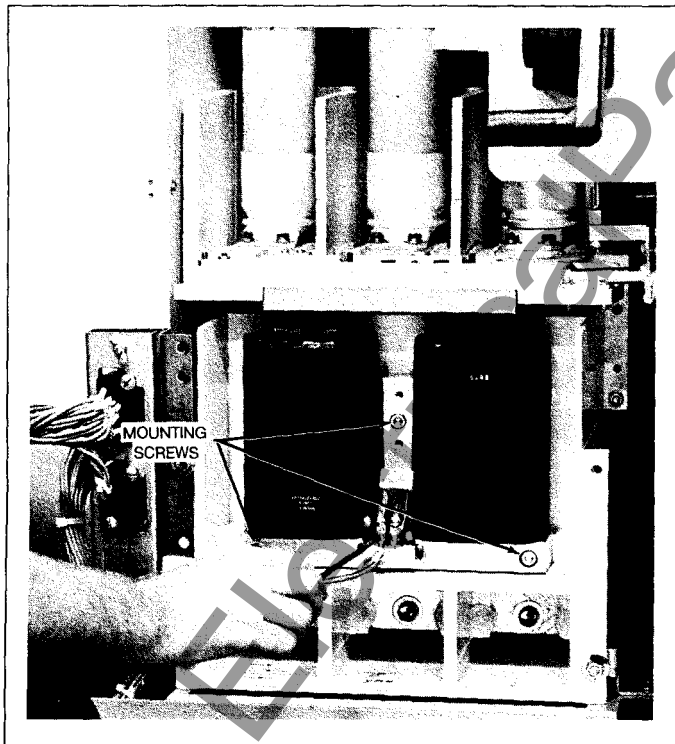

Figure 2. Coil terminal wires and mounting screws.
3. Disconnect coil terminal wires. See Figure 2.
4. Remove the three (3) coil mounting screws. See Figure 2.